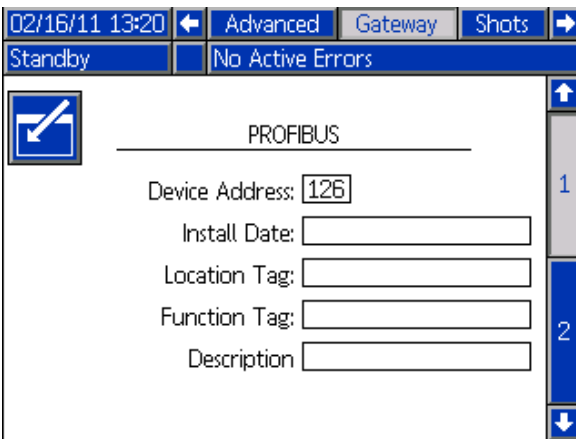

FIG. 4: Example Fieldbus Screen
2. Press the left arrow key once to navigate to the main Gateway screen. See FIG. 4.